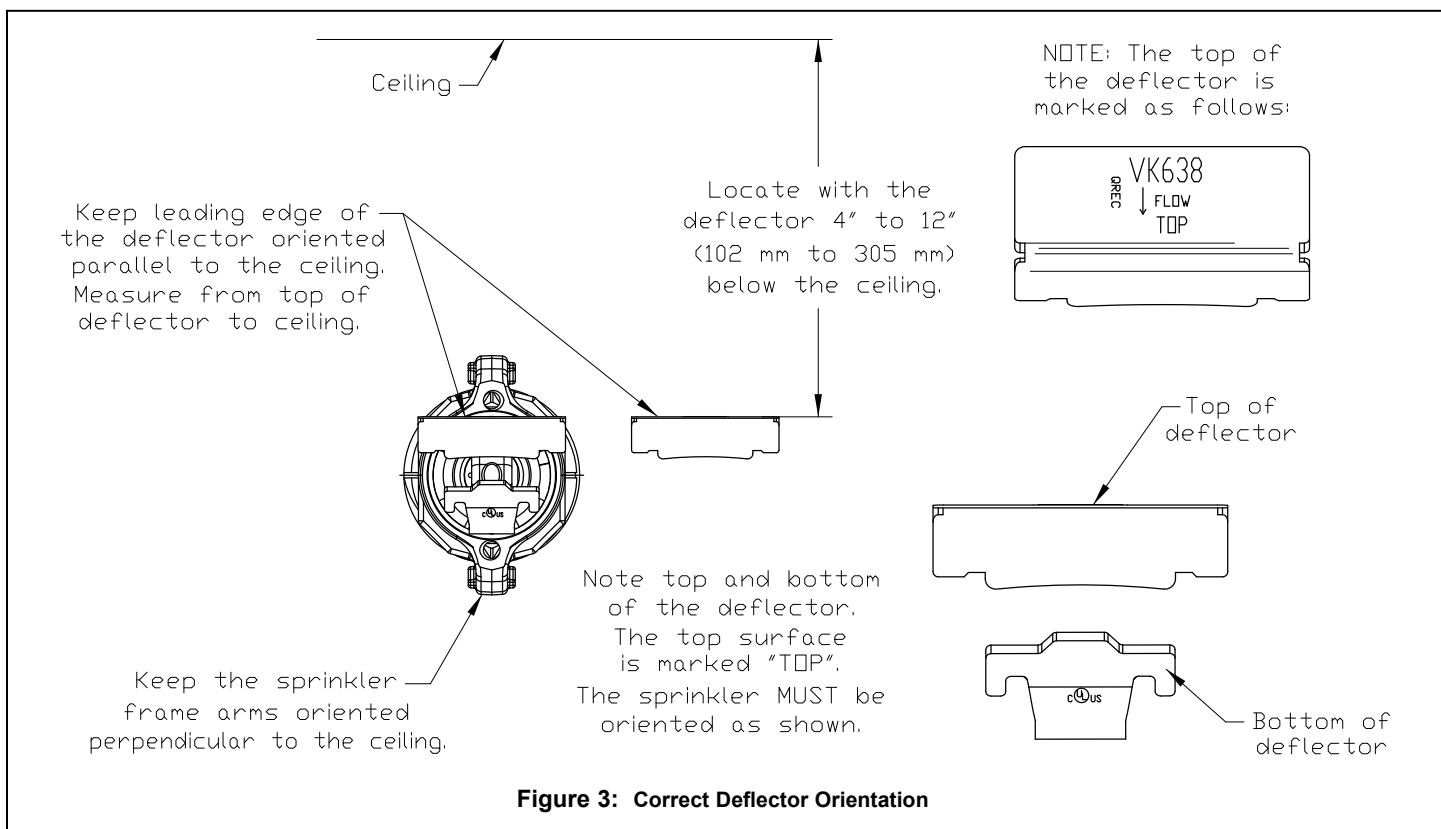

Figure 3: Correct Deflector Orientation
⁵ Listed by Underwriter's Laboratories, Inc. for use in the U.S. and Canada. cULus Listings are limited to Light Hazard occupancies with smooth, flat, horizontal ceilings only. Always install horizontal sidewall sprinklers with the top of the deflector parallel with the ceiling. Refer to Figure 3.
- Locate the the deflector 4" to 12" (102 mm to 305 mm) below the ceiling. Install with the leading edge of the deflector oriented parallel to the ceiling and with the sprinkler frame arms oriented perpendicular to the ceiling (see Figure 3). **THE TOP SURFACE OF THE DEFLECTOR IS MARKED "TOP"**. The sprinkler must be oriented as shown in Figure 3.